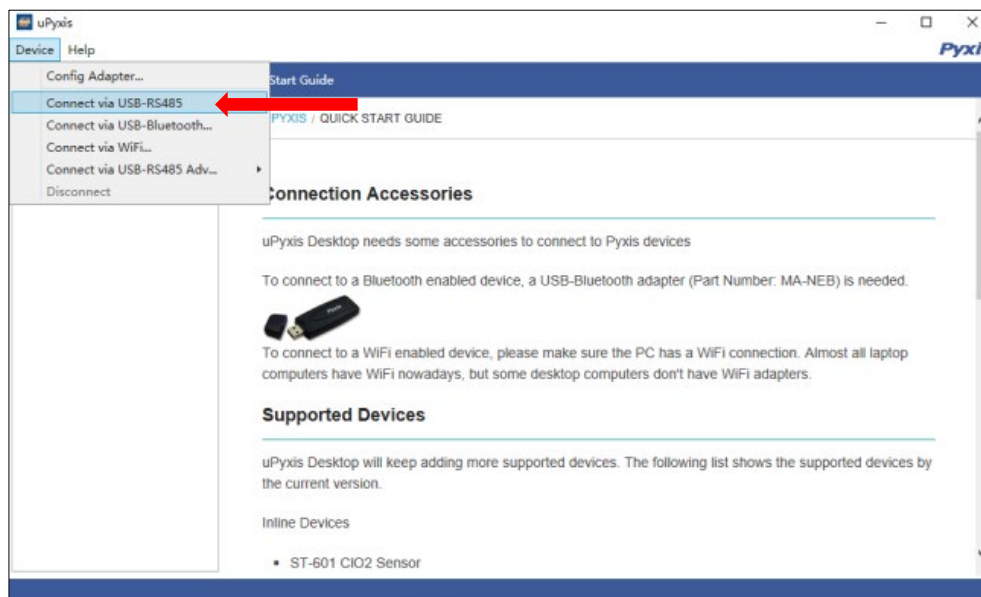

Figure 17. - Connect to ST-500W via USB-RS485 option
- 6) Select Connect via USB-RS485 (Figure 17).